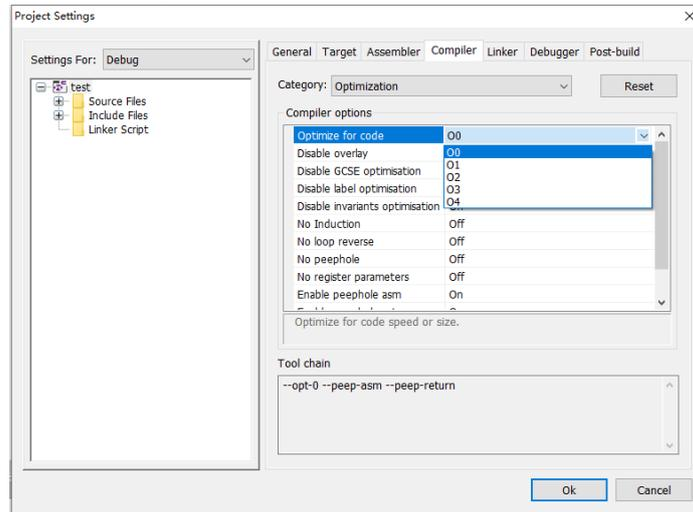

Figure 1-40
- Optimize for code: code optimization level, with the following five levels available. Default is O4, as shown in Figure 1-40;